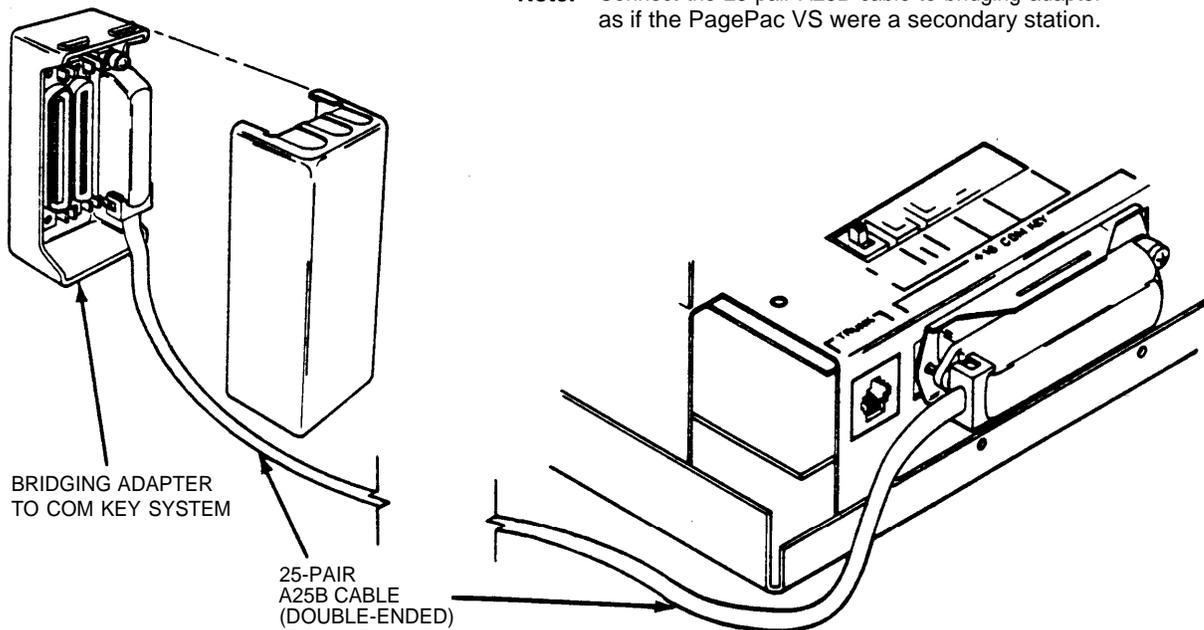

Figure 2-7. Cable Connections to Com Key System
6. Connect a A25B connector cable (double-ended) between the 25-pair 416 COM KEY connector and a telephone system bridging adapter (Figure 2-7). Pinouts for the 416 COM KEY connector are listed in Table 2-C.